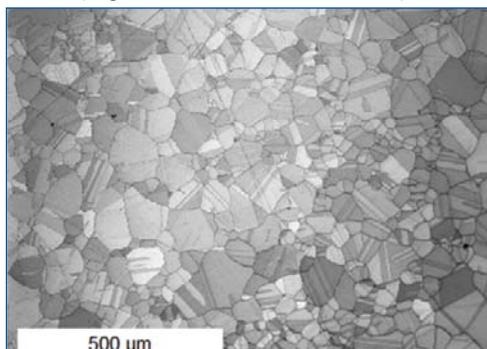

Figure 2: 1.5x1.5μm scan of nickel at 50x. As the beam deflects over larger areas, the WD is effectively lengthened, and the focus is no longer appropriate.
1. The quality of the pattern, as well as the precision of the beam placement, degrade as the beam is deflected over larger areas (see Figure 2) due to the variation in WD as the beam moves up and down a sample tilted at 70°. This effect is particularly noticeable when looking at the borders of scan fields in a Comboscan (Figure 3 – collected at 100x).